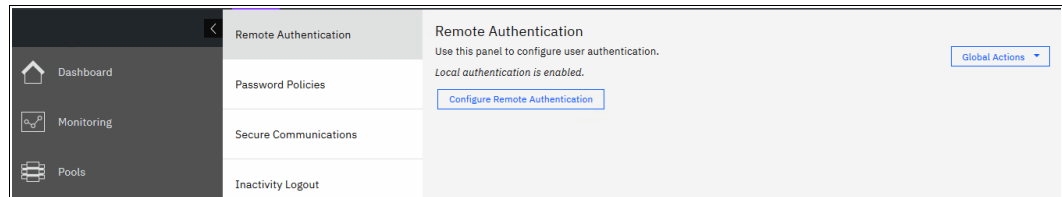

Figure 3-65 Configuring remote authentication
1. Select **Settings** → **Security**, click **Remote Authentication**, and then click **Configure Remote Authentication**, as shown in Figure 3-65.